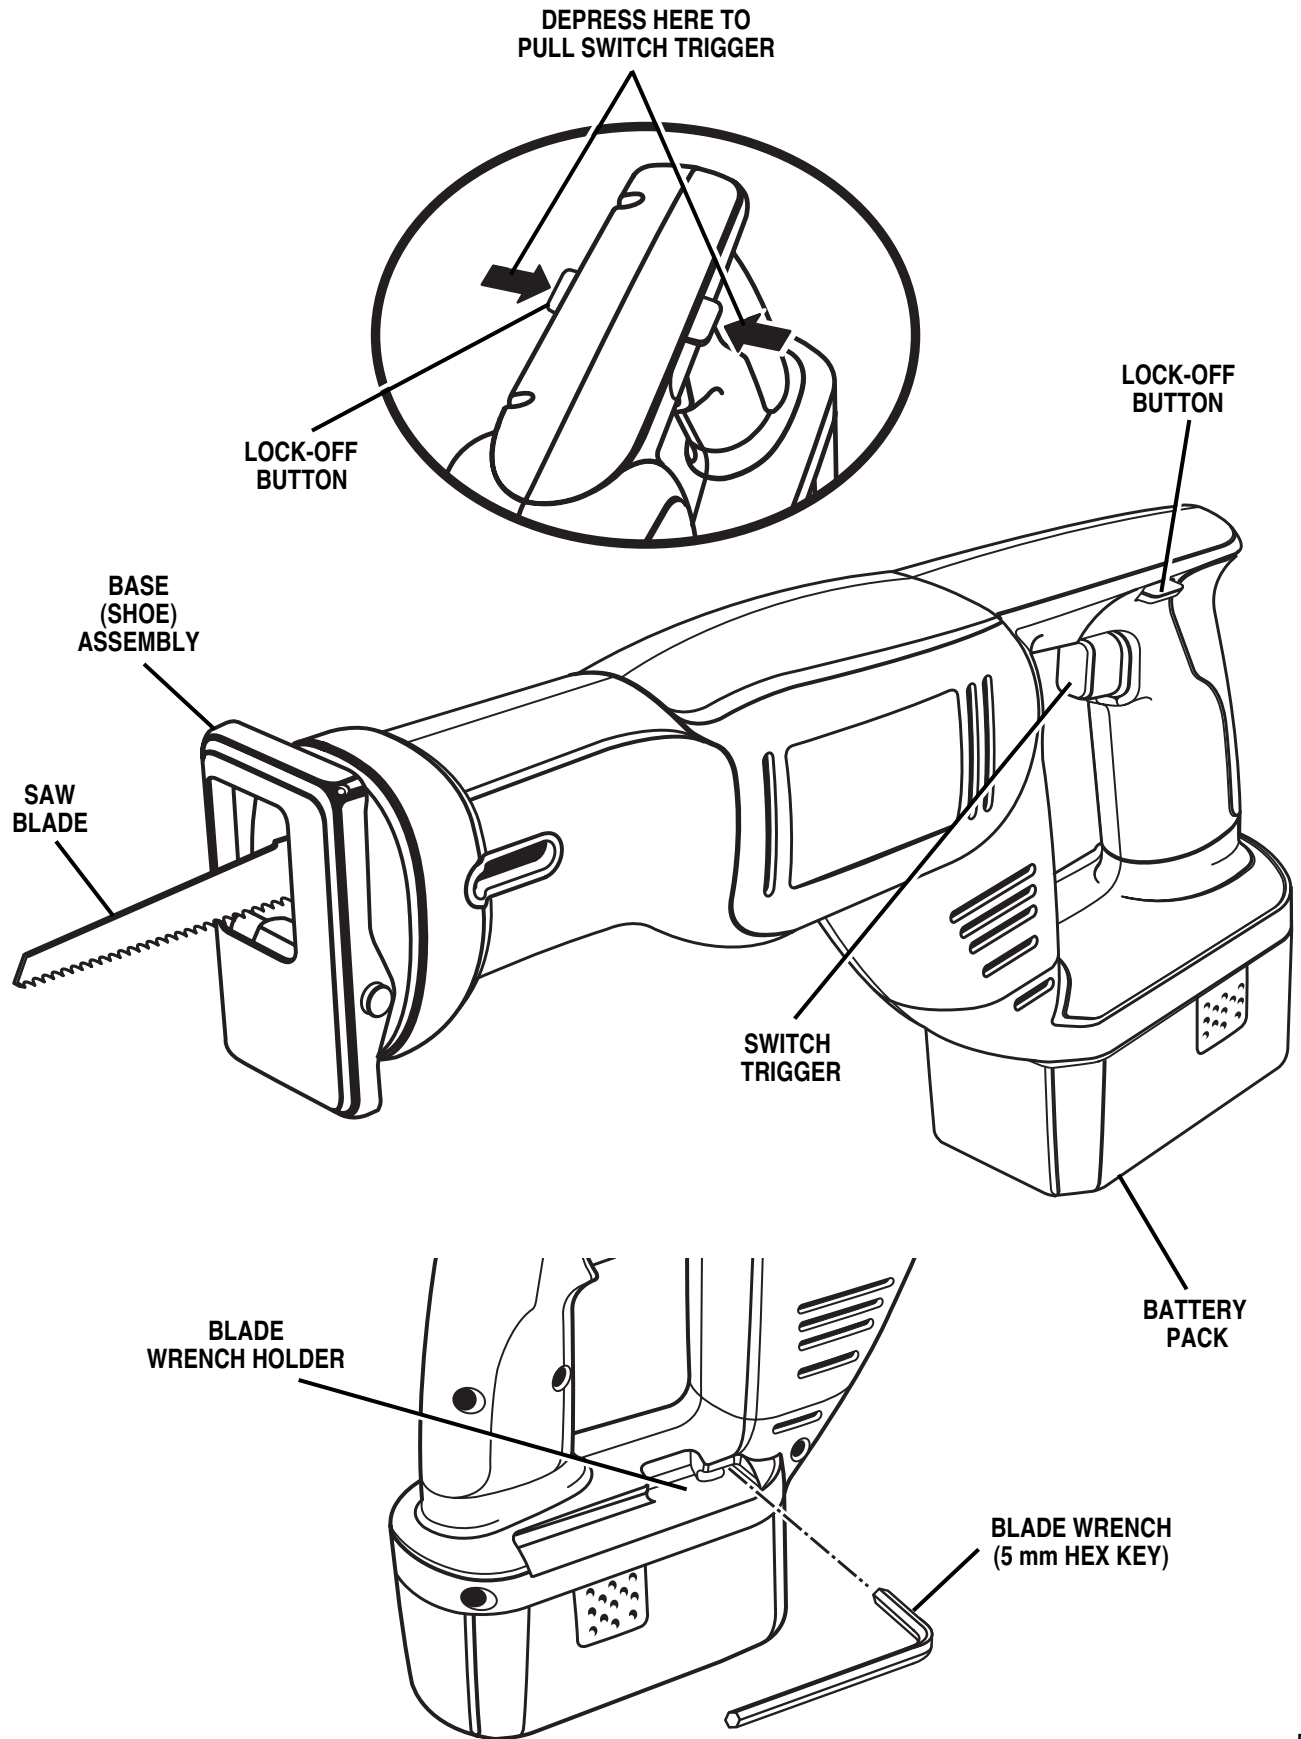

Fig. 1
See Figure 1.
- Remove the 5 mm blade wrench provided with your saw from wrench holder. **Note:** Wrench holder is located in bottom portion of saw handle. See Figure 1.